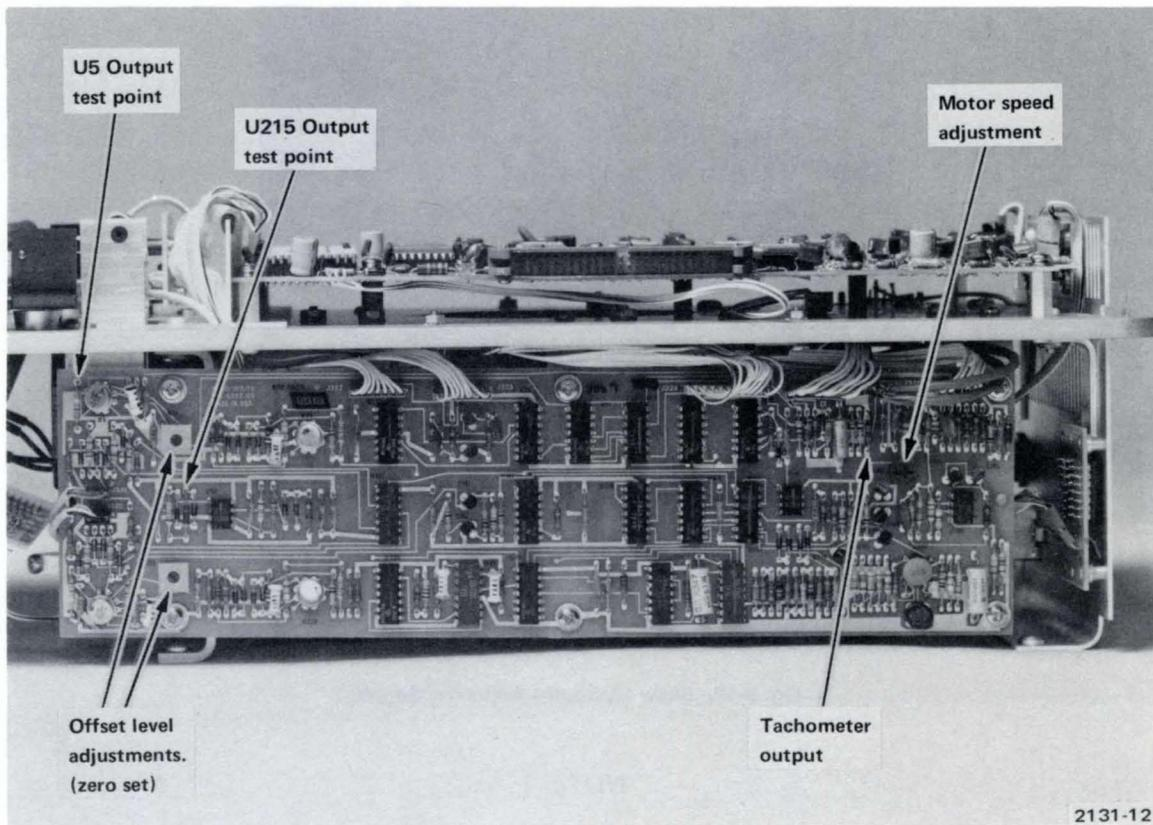

Fig. 3-17. Read/Write Board Adjustment Locations.
1. Place the voltmeter probe on the output (pin 6) of Head Amplifier U5. With no tape installed, the output should be zero volts. If not, adjust R13 (Fig. 3-17) until the zero volts output is obtained.